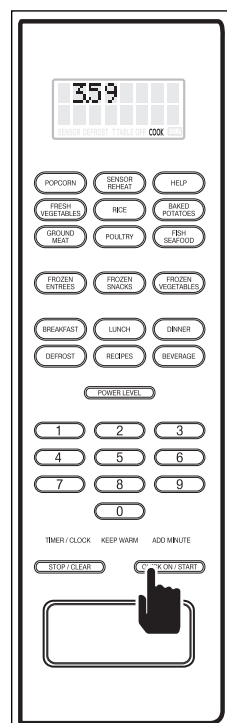

Figure 3-38.
3. Press the QUICK ON/START key to begin defrosting. The oven will energize at 30% and the display will show the time as it counts down (See Figure 3-38). At the end of the defrost time, "END" will flash on the display and the alarm will beep.